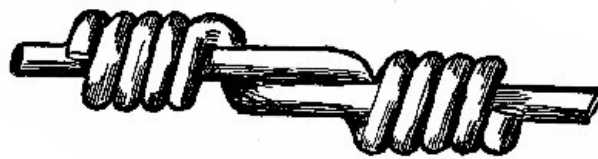

Fig. 125.
**288. Splicing Wire.** Fig. 125. Do not simply touch two wires together and imagine that you have a good connection; a mere twist is not sufficient. Clean the ends of old wire thoroughly with a file or knife-blade, and join them as shown in Fig. 125.